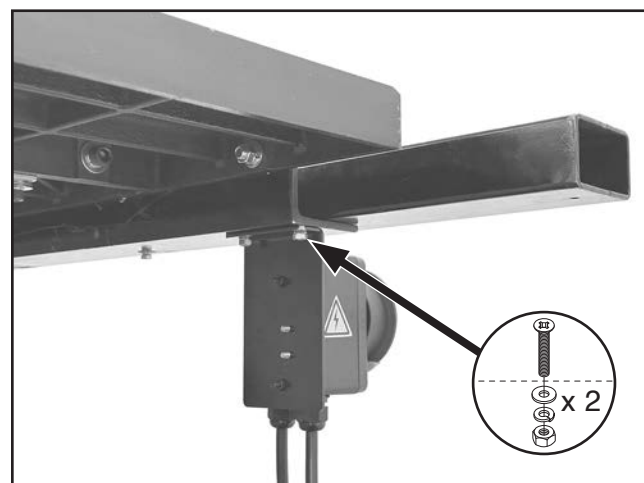

Figure 5. ON/OFF switch secured to long front rail.
4. Remove ON/OFF switch from front rail (see **Figure 5**). Retain fasteners for use in later steps.
12. Attach ON/OFF switch to left-hand side of long front rail with fasteners removed in **Step 4** (see **Figure 5**).